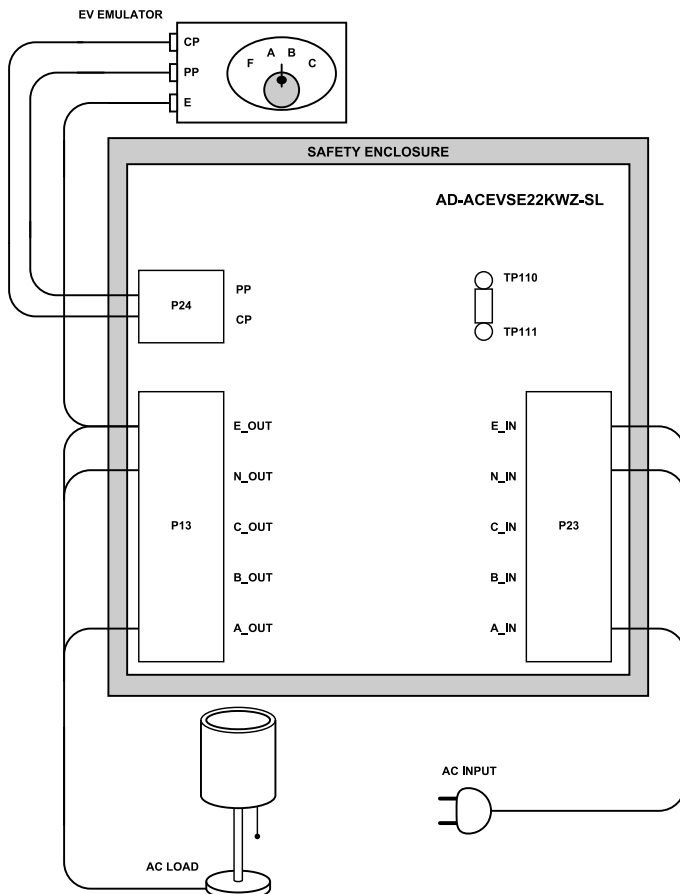

Figure 4. EV Emulator Test Setup
1. Connect a vehicle emulator to the control pilot (CP) and proximity pilot (PP) terminals of P24, as shown in Figure 4.